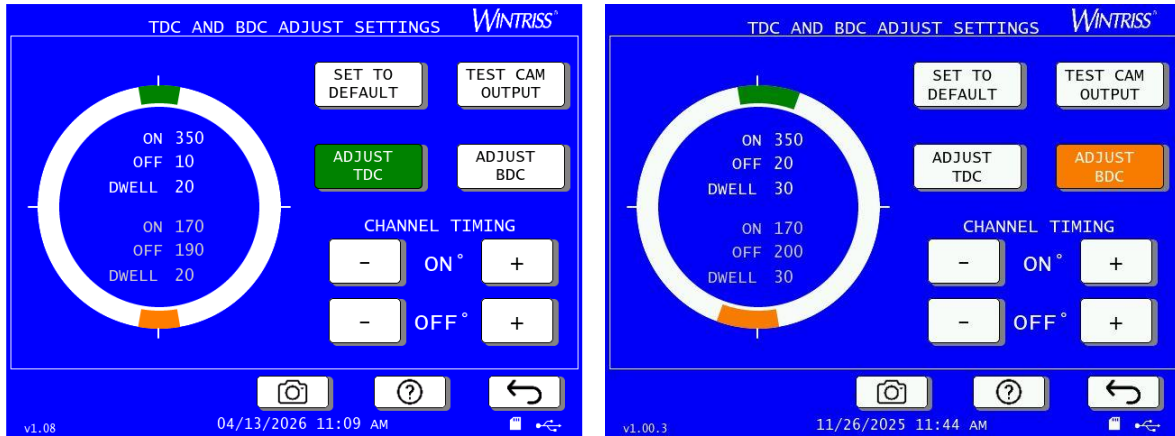
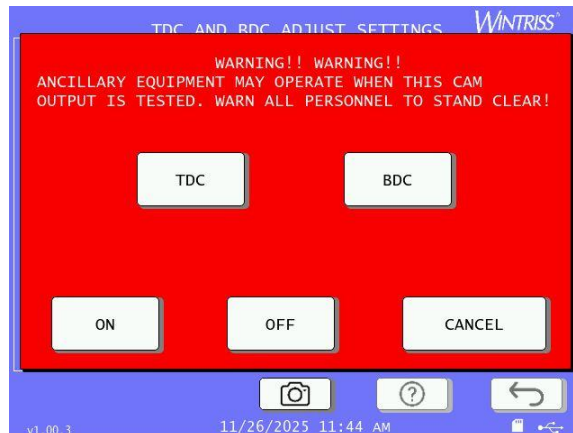

Figure 3-32. TDC and BDC Adjust Settings Screen
Figure 3-33. Test TDC and BDC Cam Outputs Screen
1. On the WPC Initialization menu, Figure 3-2, page 114, press TDC/BDC ADJUST SET. The TDC and BDC Adjust Settings screen appears, Figure 3-32.
On the TDC and BDC Adjust Settings screen, Figure 3-32, previous section,
1. On the TDC and BDC Adjust Settings screen, Figure 3-32 (previous section), press TEST CAM OUTPUT. The test screen appears, Figure 3-33.